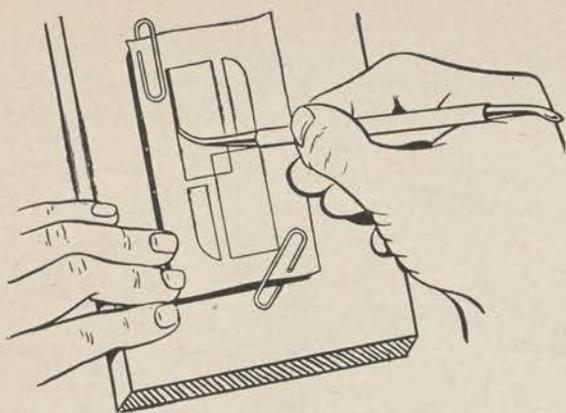
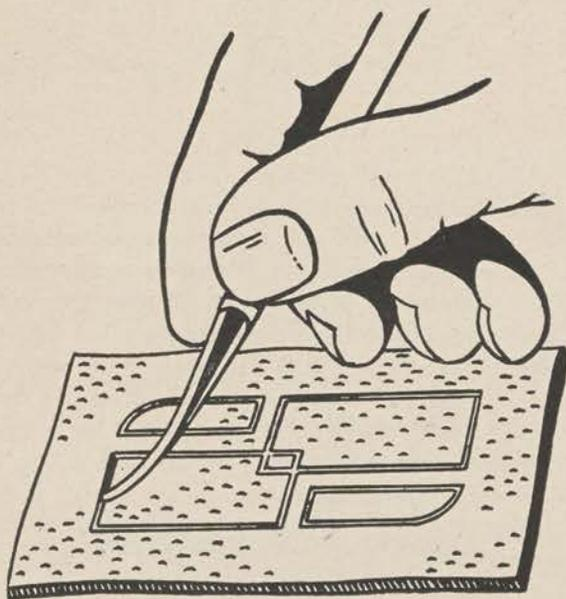

Figure 18.
Figure 19.
c. To transfer the design to the object, dampen the leather slightly on both sides with a sponge or rag. The moisture must penetrate thoroughly, but the leather should not be wet enough to give out water when pressed with a modeling tool. With the pattern in place, trace over all the lines on the paper with a tracer, awl or other smoothly pointed tool (fig. 18). Bear down firmly, but do not permit it to break through the paper. When all lines have been covered, lift off the pattern and you will find that the design is lightly indented in the surface of the leather. The lines can be strengthened by going over them with the same tool after the paper has been removed (fig. 19). When the leather dries, they will remain in the surface so it is important to handle the tool with care as mistakes cannot be corrected. No further work is required if your design is a simple combination of thin lines as in the illustration. The same procedure is used, however, in outlining large areas to be modeled or embossed.